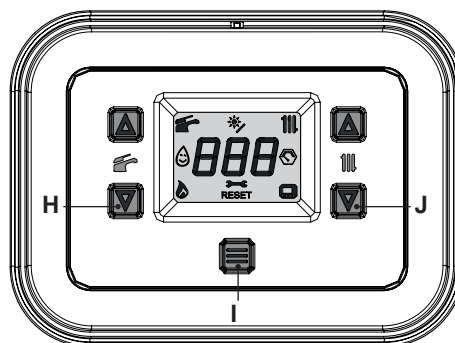
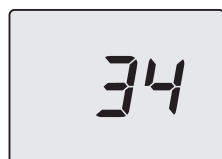

Figure 11.9
Figure 11.12
- 5 To enter in the parameters setting mode press at the same time the 2 keys "H" and "J" (Figure 11.9) and hold in for 5 second until the display shows Figure 11.10.
- 6 Scroll the various menus using keys "H" or "J" (Figure 11.9) until **CAF** appears on the LCD display (Figure 11.11).
- 7 Press the key "I" (Figure 11.9) until the **StF** (Start Full), alternating with **34** (calibration value), appears on the LCD display (Figure 11.12).
- press the "H" and "J" keys simultaneously for 5 seconds (Figure 11.9) (return to previous level).